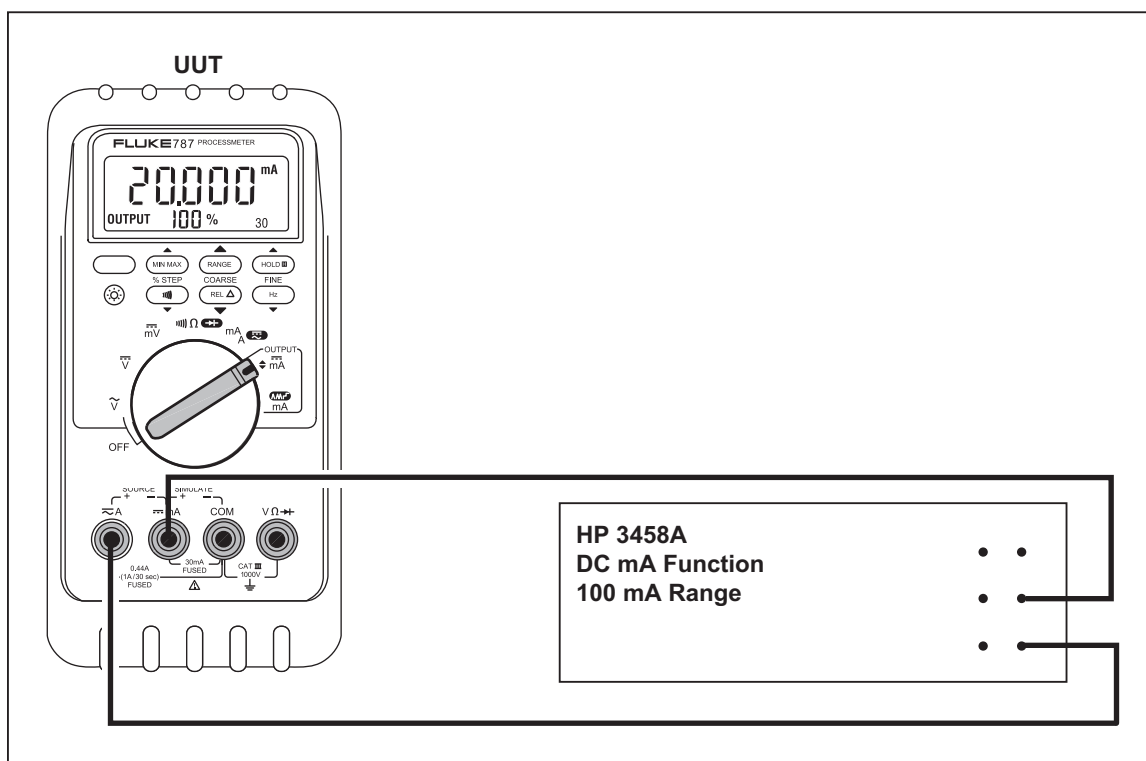

Figure 4. Current Sourcing Connections Using the HP 3458A
2. Connect the **SOURCE + (⌚A)** and **-(⌚mA)** terminals on the UUT to the current terminals on the multimeter as shown in Figure 4.